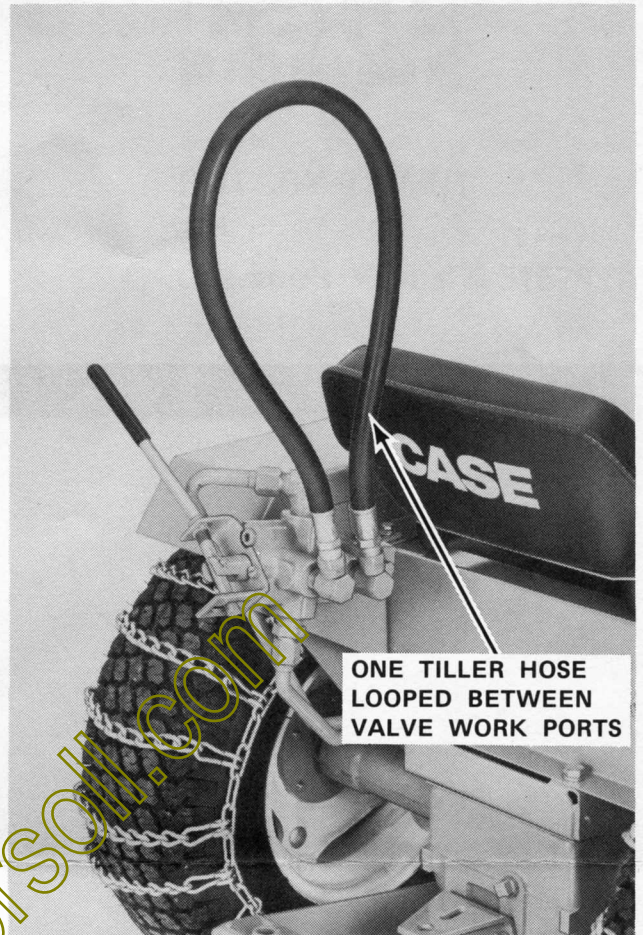

FIGURE 10 Hydraulic PTO
5. Connect the free end of the PTO hose to the open fitting on the PTO valve. See Figure 10.